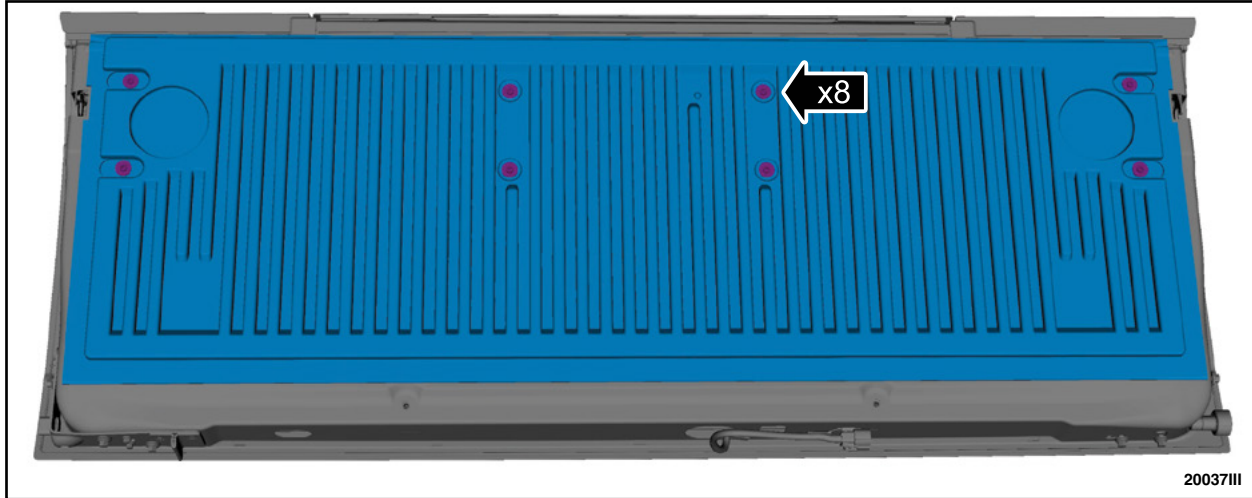

FIGURE 42
61. If equipped, remove the bedliner tailgate cover. See Figure 42.